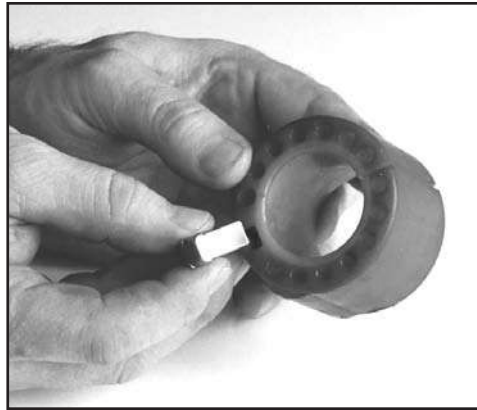

FIG. 40: REMOVE CONTROL STUD
2. Pull out the control stud (see Fig. 40).